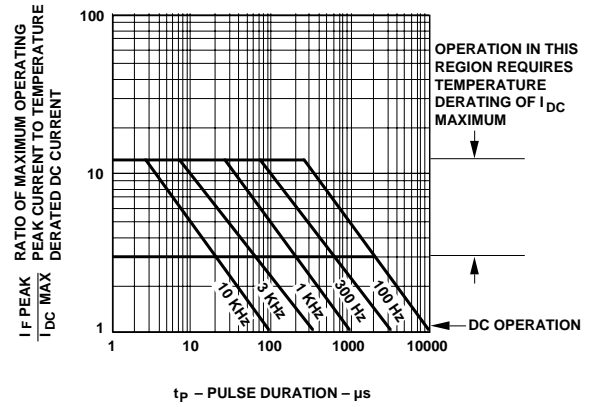

Figure 6. Maximum Tolerable Peak Current vs. Pulse Duration - Green.
3. See Figure 6 to establish pulsed conditions.